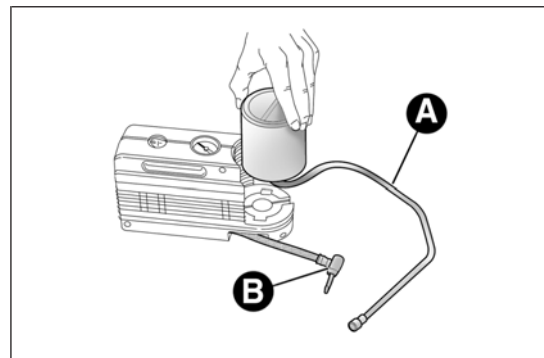

fig. 130
- ☐ release connector A fig. 130 and disconnect tube B;